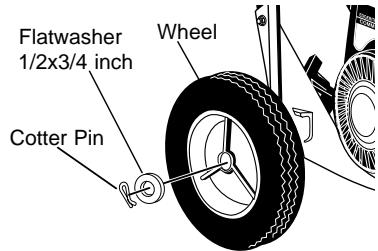

FIG. 3-ASSY
- Attach the right rear wheel to the wheel support rod of the Edger/Trimmer as shown in **Fig. 3-ASSY** with a 1/2 x 3/4 inch flatwasher and cotter pin found in parts bag. Insert cotter pin and bend ends of cotter pin with pliers.